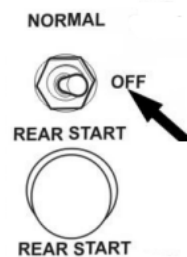

FIGURE 23
36. Press the starter push-button switch (FIGURE 23). Release push-button after the engine starts. Check for leaks and proper operation. After shutdown, replenish fluids as necessary.